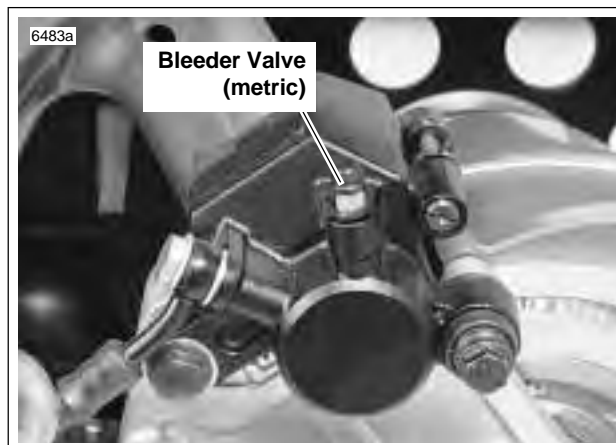

Figure 2-32. Rear Caliper Bleeder Valve (Metric)
1. See Figure 2-32. Drain brake fluid into a suitable container. Discard of used fluids according to local laws.